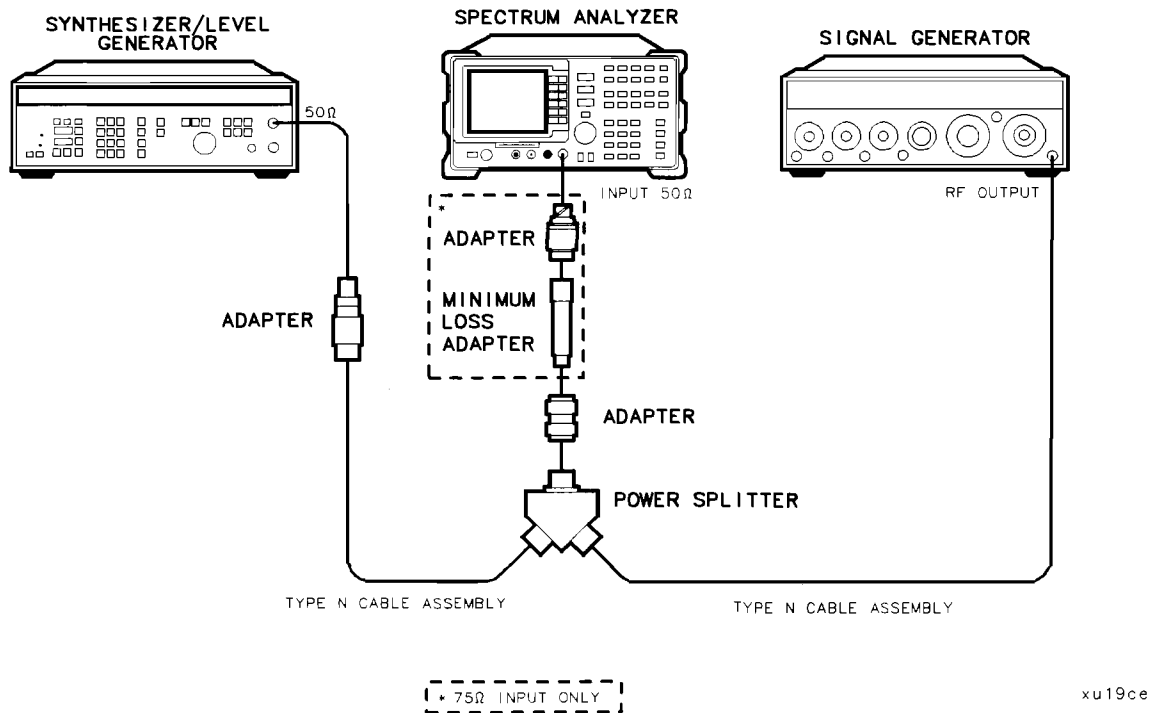

Figure 2-10. 10.1 MHz to 10 kHz Frequency Span Readout Accuracy Test Setup
1. Connect the equipment as shown in Figure 2-10. Note that the Power Splitter is used as a combiner.